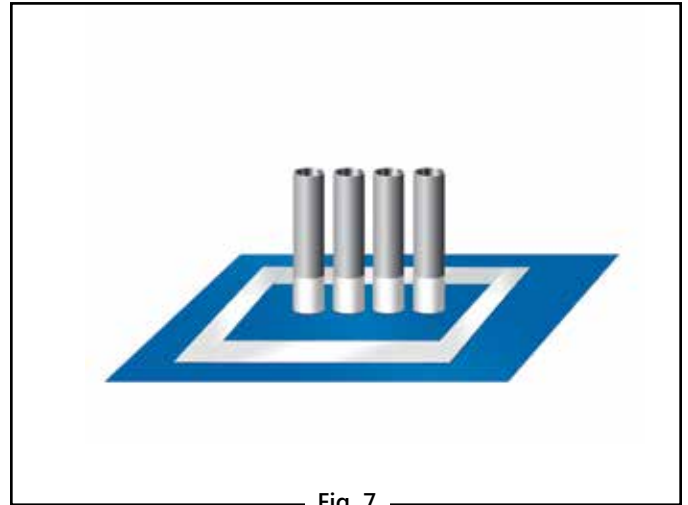

Fig. 7
- D) Tape around each of the penetrations and the patch with VaporBond 4" Tape. (Fig. 7) For additional protection apply an acceptable polyurethane elastomeric sealant around the penetrations. (Fig. 8)